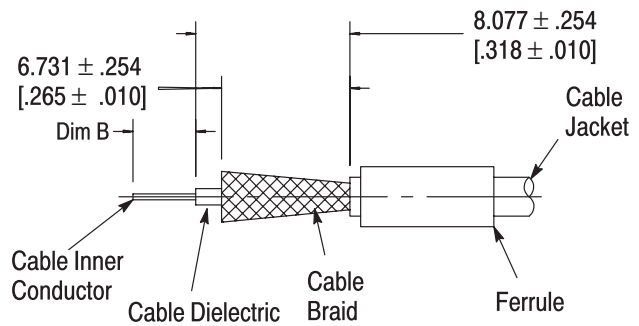

Figure 2
Dim A	Dim B (Fig 2)
2.1. Preparing the Cable End (Figure 2)
- Strip the cable according to the dimensions in Figure 2.